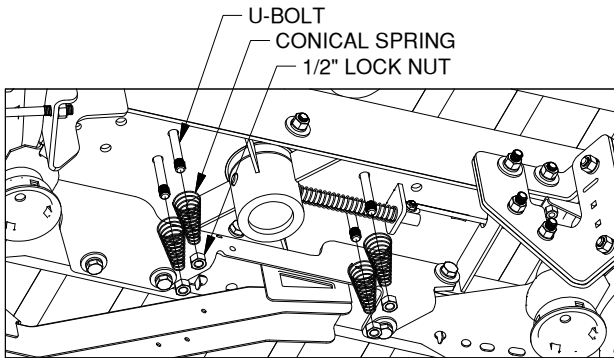

Figure G2: View under the bed looking back at the rear of the truck. (Exhaust not shown)
- 3. Add springs.** Place a conical spring over each leg of the U-bolts and secure with a 1/2" lock nut, see Figure G2. Tighten the lock nut until the nut is flush with the end of the U-bolt.